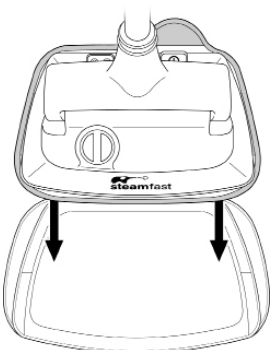

FIGURE 3
2. Align Mop Head above Carpet Glider. Make sure Mop Head is oriented with Carpet Glider as shown (FIGURE 3).